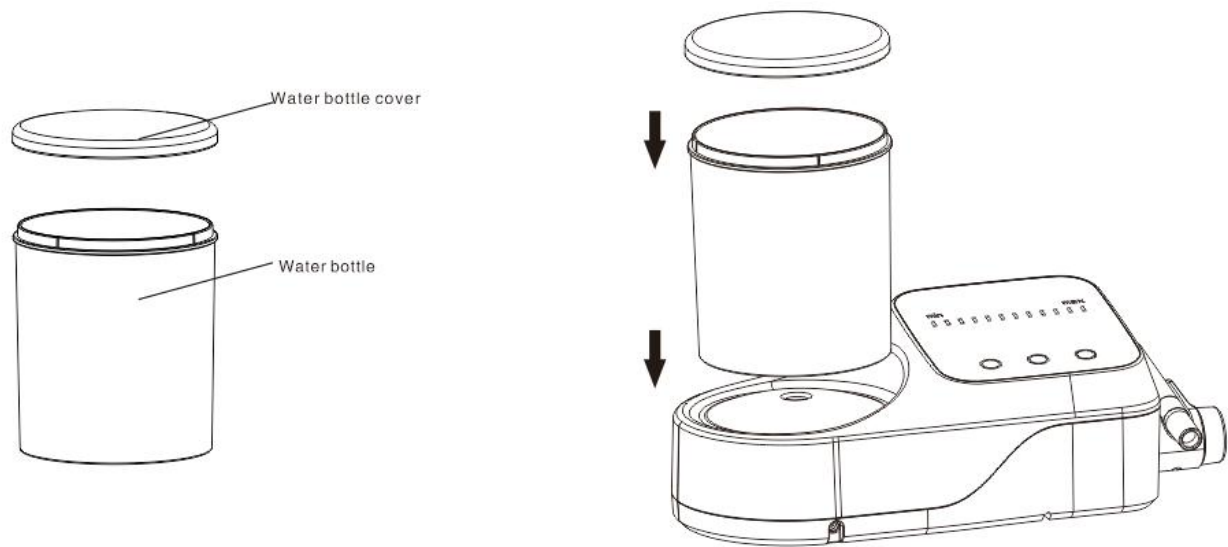

Figure 4
- (4) Open the water bottle, pour a proper amount of purified water into the water bottle, then put the cover back, and install the water bottle (see Figure 4).